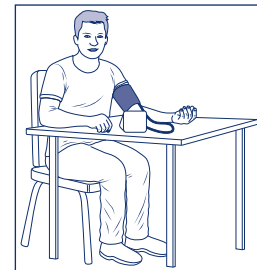

Figure 3
- When closing the cuff, check that the metal loop of the cuff is within the arm circumference marking (OK) on the edge of the cuff (Figure 3).